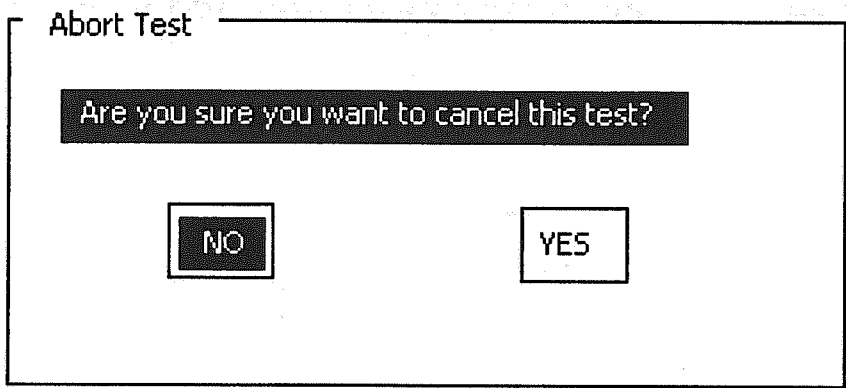

Figure 15-1. Abort Test Screen
- Step 2:** Select the **Abort Test** option in the **CONTROL** menu. The Abort Test screen, **Figure 15-1**, is displayed. A dialog box on the screen prompts "Are you sure you want to cancel this test?".